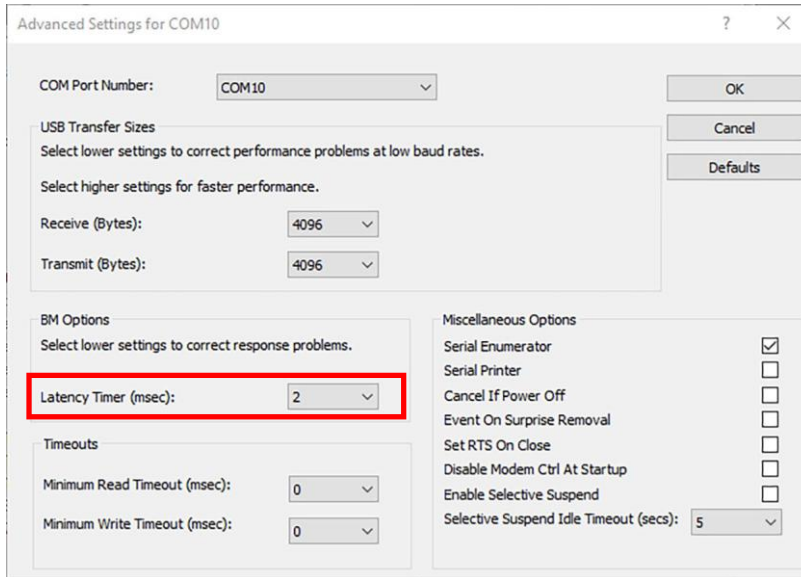

Figure 34 *Advanced Settings Dialog*
4. Select the appropriate **Latency Timer (msec)** setting in the drop-down list (outlined in red in **Figure 34**). The **Latency Timer (msec)** can be set as low as 1 msec.